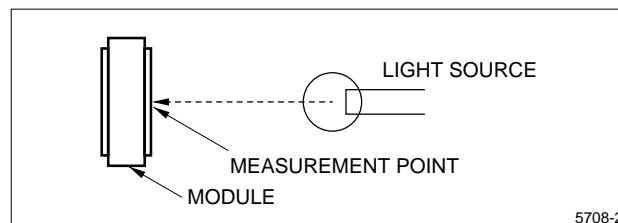

Figure 1. Measurement Point: Panel Surface
3. Measurement point: panel surface. See Figure 1.